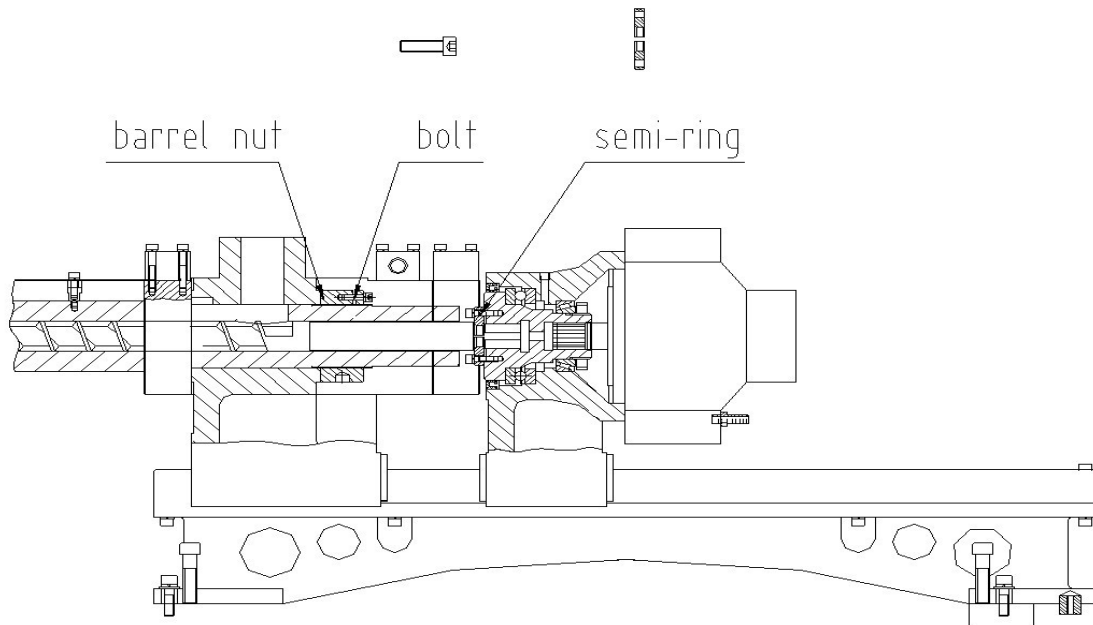

Fig.4-7
- 7) According to Fig.4-7, remove the bolts and semi-ring in succession, press NOZZ ADV and remove the screw and the flat key,